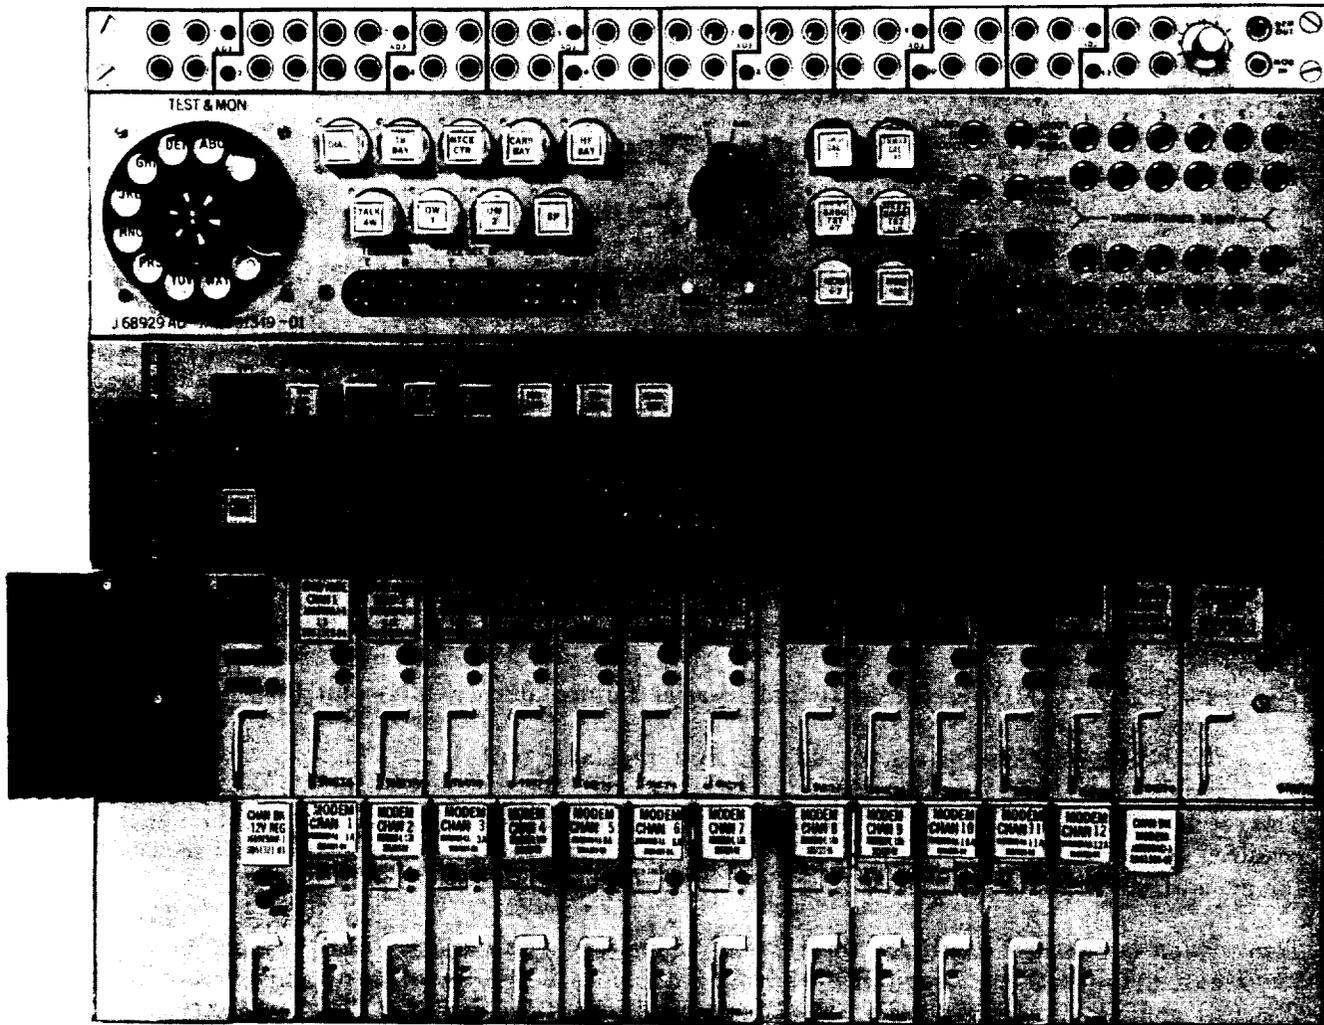

Fig. 1—A6 VF Jack Panel, VF Test Panel, Carrier Supply, and Channel Bank
The J68929AA A6 channel bank (Fig. 1) is a frequency-division multiplex terminal that translates 12 voice-frequency (VF) channels to the 60- to 108-kHz group band in its transmitting section and translates the 60- to 108-kHz group band to 12 VF channels in its receiving section. The A6 channel bank consists of:
- 12—J68929AF (MD) or AR (MD) or J68954BG (std) channel modem units
- 1—J68929AG (MD) or AU (MD) or J68954BH (std) channel bank modem unit
- 1—J68929BC (MD) or J68954BJ (std) carrier failure alarm (CFA) unit (optional)